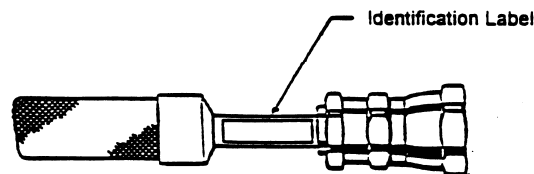

Figure 12 Attach Identification Label
1. Identification labels are furnished with the gas lines. Before installing the gas lines, identify each with an appropriate label, SUPPLY (high pressure, color-coded red) or RETURN (low pressure, color-coded green) by applying the label adjacent to each Aeroquip coupling. See Figure 12.